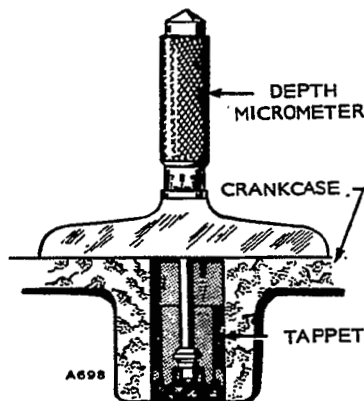

FIGURE 39. DEPTH MICROMETER
1. Install pump tappet in its recess and position flywheel on the port closing mark (PC) of the compression stroke.
2. Using a depth micrometer, measure the distance from the pump mounting pad on the crankcase to the tappet center. See Figure 39.